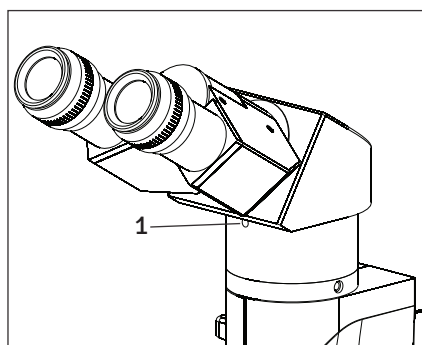

Fig. 5
1. Using allen wrench 3mm (provided), loosen the Head Locking Screw (1) and remove the dust cover cap provided in dovetail cavity as well as on observation head dovetail.
3. Tighten the Head Locking Screw (1) after positioning the Observation Head as desired. See figure5.